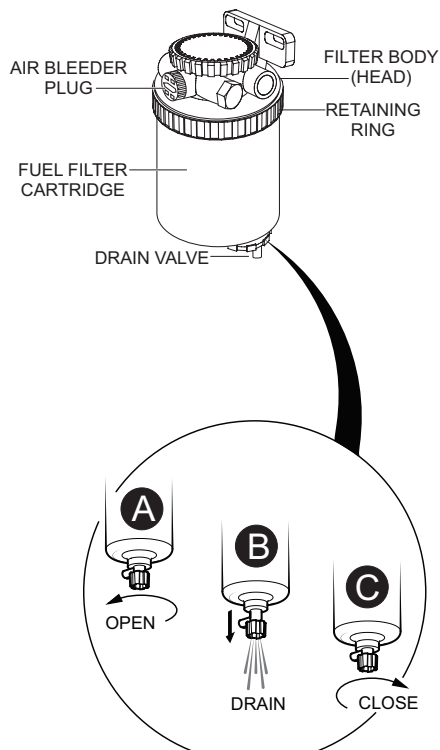

Figure 61. Fuel Filter Draining
Inspect the fuel filter **daily**. If the fuel filter (Figure 61) has collected a significant amount of water and sediment at the bottom of the cartridge, it should be drained off immediately.
1. Loosen the air bleeder plug (Figure 61) on the fuel filter body.
2. To discharge the fuel inside the fuel filter cartridge **OPEN** the drain valve on the fuel filter by turning the knob **counterclockwise (A)** approximately 3-1/2 turns until the valve drops down 1-inch (25.4 mm) and draining occurs (B).